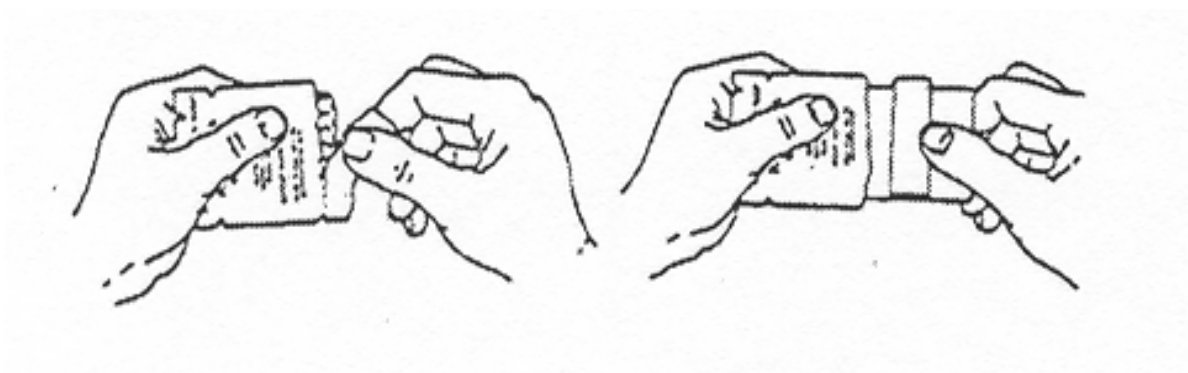

Figure 4-1. Tearing open at notch and removing applicator pad.
d. Tear open quickly at notch and remove applicator pad (see Figure 4-1).